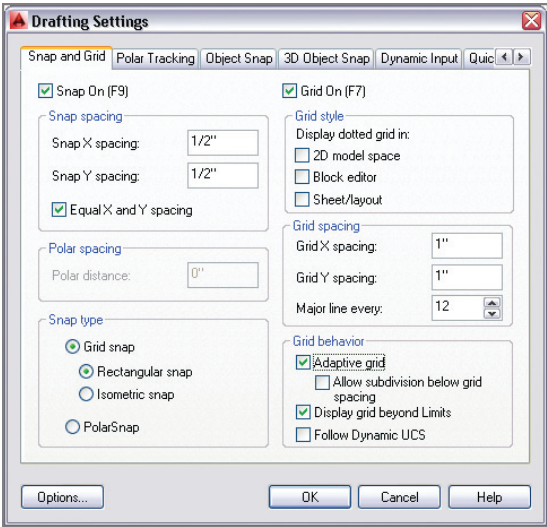

FIGURE 3.2 Setting up grid spacing and toggling on Snap
3. Right-click the Grid Display toggle on the status bar, and choose Settings from the context menu. Change Grid X spacing to 1" (or 10 mm), and press Tab; Grid Y spacing updates with the same value. Set Major Line Every to 12 for Imperial (or 10 for metric) so that you'll see darker grid lines every foot. Notice that Snap spacing is set to 1/2" (or 10 mm) by default. Select Snap On, and verify that the Grid Snap radio button is selected in the Snap Type area (see Figure 3.2). Click OK.
3. Select the PolarSnap radio button in the Drafting Settings dialog box. Type **1"** (or **10** in metric) in the Polar Distance text box (this dialog was shown back in Figure 3.2). Click OK.